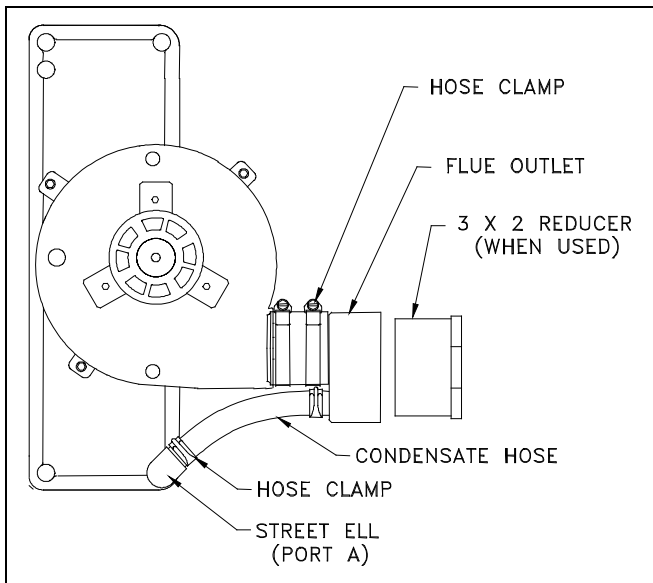

Figure 10. Horizontal Air-Left Vent Connection.
3. Install large hose clamp over rubber coupling on furnace draft inducer. Do not tighten hose clamp. See Figure 10.
4. Push flue outlet fitting into rubber coupling until it bottoms out. Rotate flue outlet fitting until drain is on bottom as shown in Figure 10. Tighten hose clamp securely.